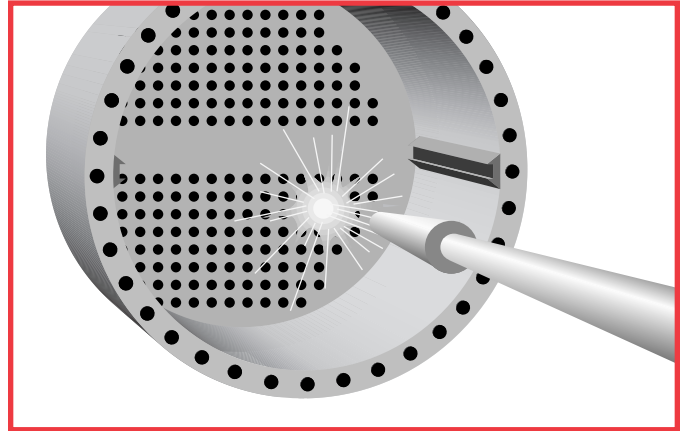

Figure 33. Sandblast the tube sheet once stoppers are installed.
- 2. Surface preparation.** Once the stoppers are installed, abrasive blast the entire faceplate. After blasting, blow out the debris from the sheet using clean air. Degrease thoroughly with Loctite® ODC-Free Cleaner & Degreaser. For best results, steam clean the application surface after blasting and degreasing. Prepare the baffle plates and end covers as the tube sheet itself. (See figure 33)